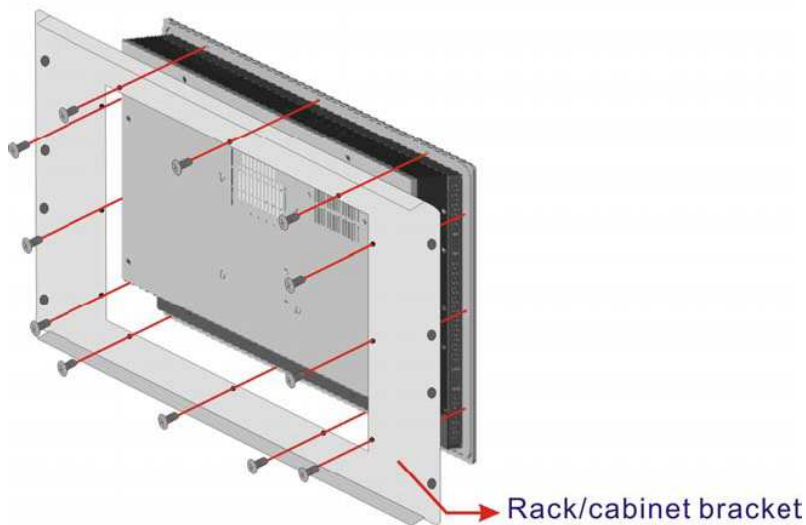

Figure 3-18: Secure the Rack/Cabinet Bracket
Step 4: Secure the rack/cabinet bracket to the IVC-17PC-P flat panel PC by inserting and tightening 12 retention screws. (See **Figure 3-18**)